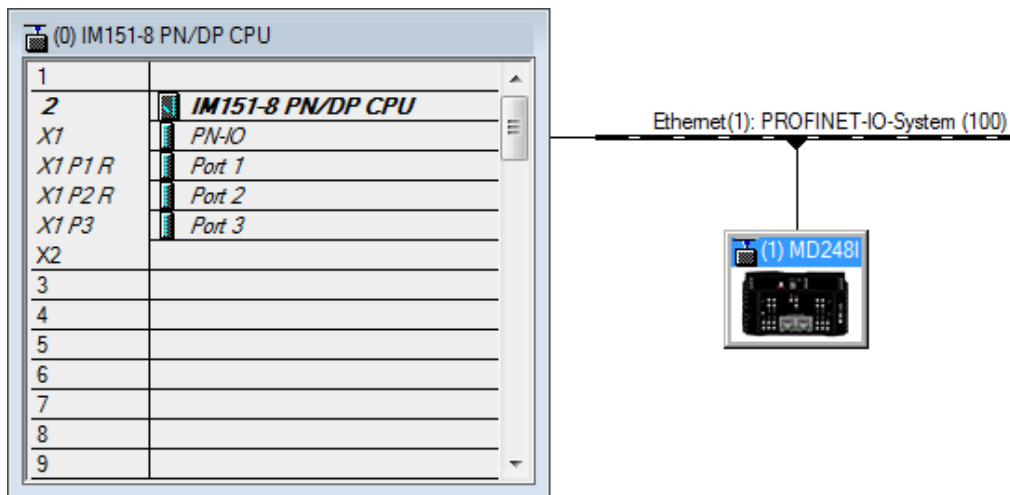

Figure 3: Inserting an IOLM MD248i into a PROFINET IO System
5. Double-click the IOLM, check **Assign IP address via IO controller** as shown in Figure 3.